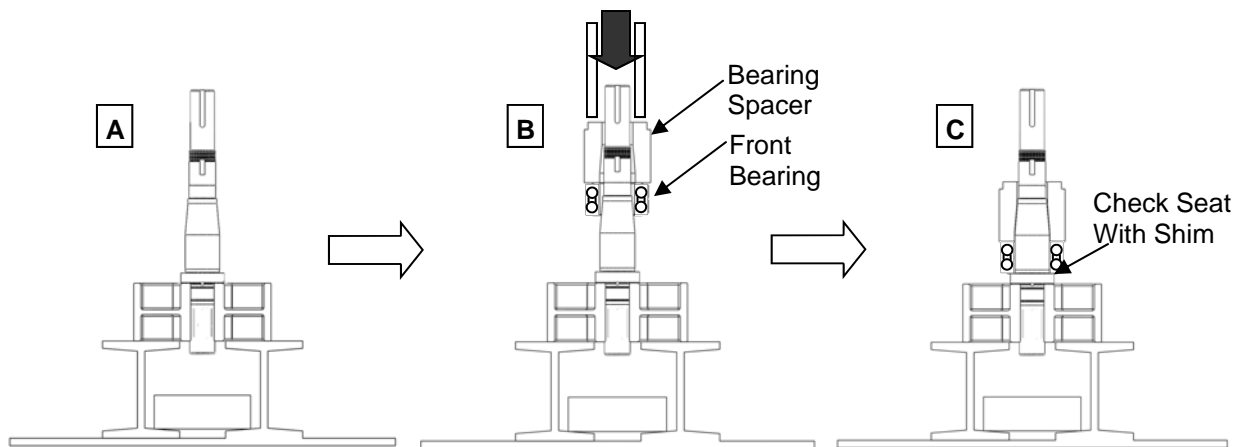

Figure 49: Pressing Front Bearing onto Shaft
1) Clean all reusable parts prior to reassembly. Apply a light coat of lubricant on the shaft area where the front bearing will sit. Position the shaft upright in the press with the rotor end facing down (Figure 49, A). Ball bearings are used on all models except for the AL40 series. For the AL40 series it is important to not interchange any parts of the bearing assembly since all bearings are manufactured as sets and assembled to have a precise overall length. Open the new front bearings and place it over the shaft along with the bearing spacer (Figure 49, B). Make sure the bearing and spacer are aligned before pressing them on. Using a sleeve that rests on the bearing spacer and rides over the shaft, press the bearing on until it seats against the shaft shoulder. A shim can be used to ensure that the bearing is fully rested on the shaft shoulder (Figure 49, C).